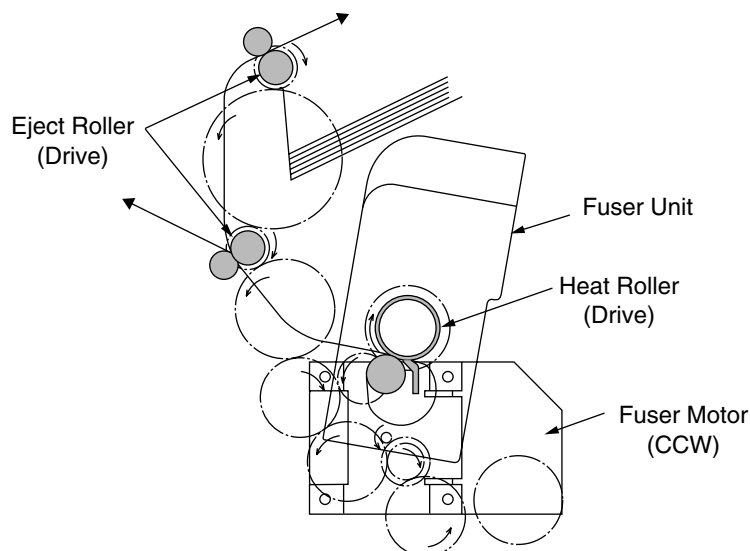

Figure 2-8
1. As illustrated in Figure 2-8, the fuser unit and delivery roller are driven by the DC motor. As the fuser motor rotates (Counterclockwise turn), the heat roller is turned. This roller fixes a toner image by heat and pressure.